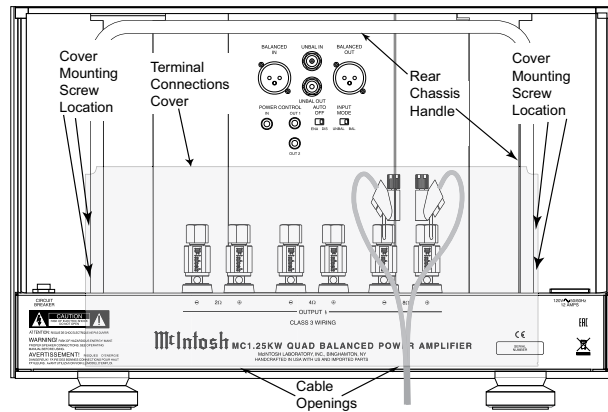

Figure 5 (Inside USA and Canada)
7. Locate the Terminal Connections Cover from inside MC1.25KW shipping carton. Insert the just prepared Loudspeaker hookup cables thru the cover opening on the right side. Refer to figure 5.
Note: The illustration in figure 5 is connections for 8Ω (ohms) Loudspeakers.
11. Attach the Terminal Connections Cover to the MC1.25KW Rear Panel with the previously removed Screws. Refer to figure 5.